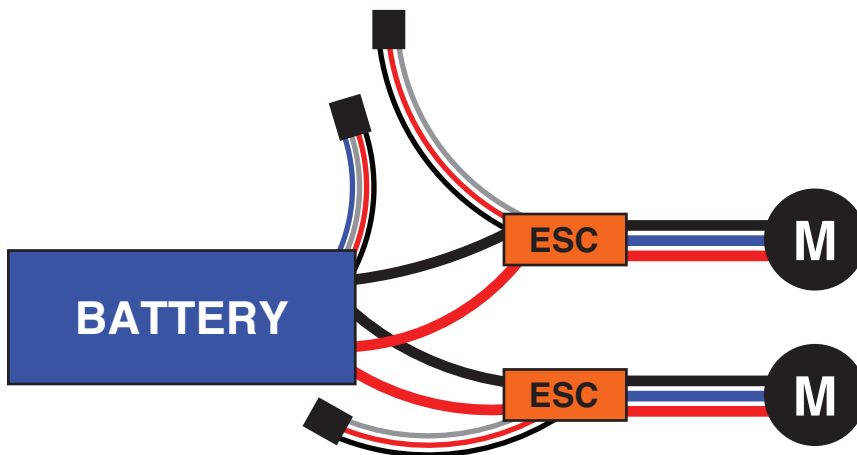

FIGURE 7.19 Connect the leads of both ESCs to the appropriate plugs on the batteries.
- b. The other ends of the ESCs have a three-wire plug and separate red and black wires. The red wire from each ESC plugs in to the battery's positive connector, and the two black wires plug in to the battery's ground connector. You will have to twist each pair together into a single wire, as shown in Figure 7.19. Cover up the exposed wire with electrical tape.